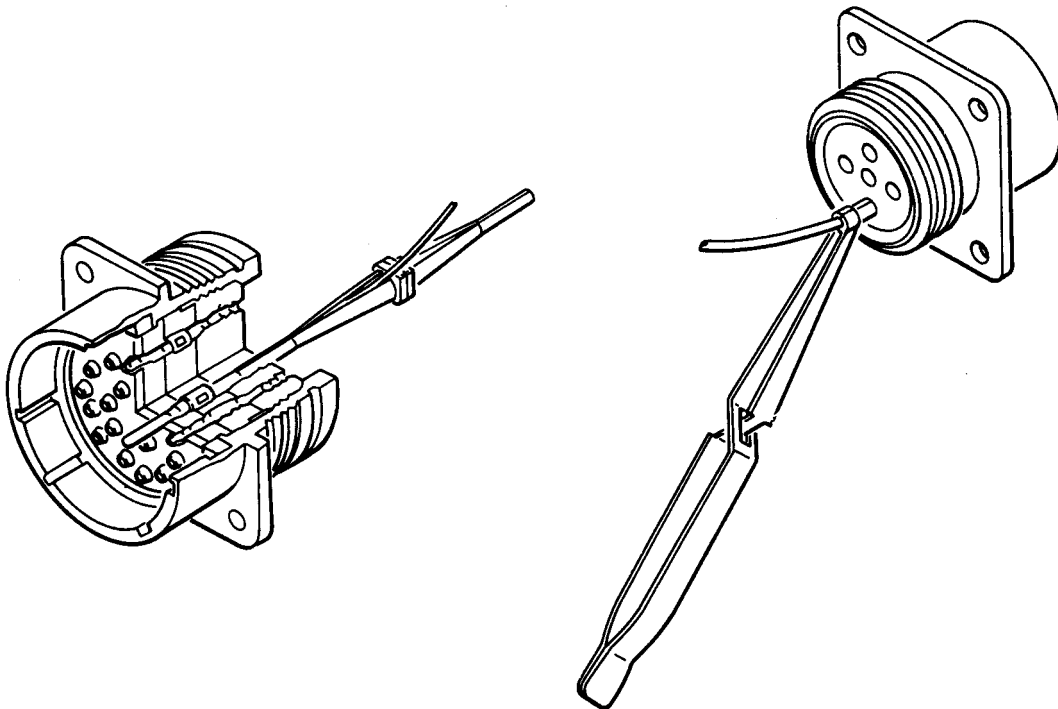

Figure 4-26. Contact Pin Removal
- (a) Clip removal tool around wire connected to pin to be removed. See figure 4-26.